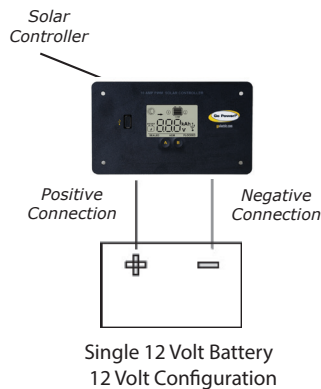

Figure 4
1. Single 12 Volt battery connection (See Figure 4)